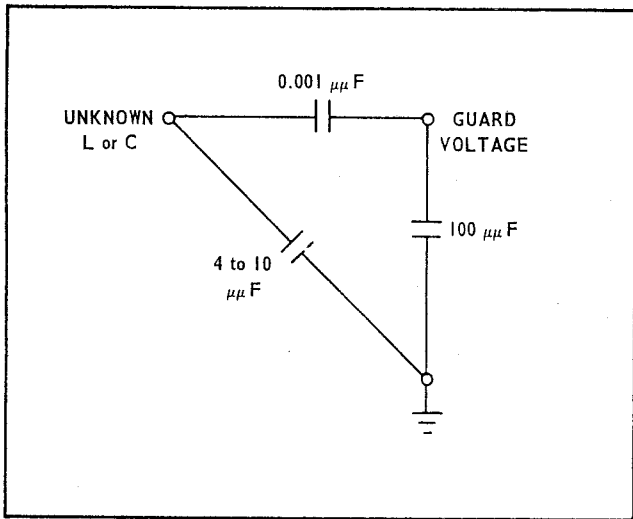

Fig. 2-11. Guard Voltage adjust external circuit.
4. Use a low capacitance tool and push the 0.001  $\mu\mu\text{F}$  capacitor open lead into the GUARD VOLTAGE terminal so it makes contact. The external circuit is now as shown in Fig. 2-11. Adjust the Guard rheostat so the meter gives the same reading with and without the 0.001  $\mu\mu\text{F}$  capacitor touching the GUARD VOLTAGE terminal.